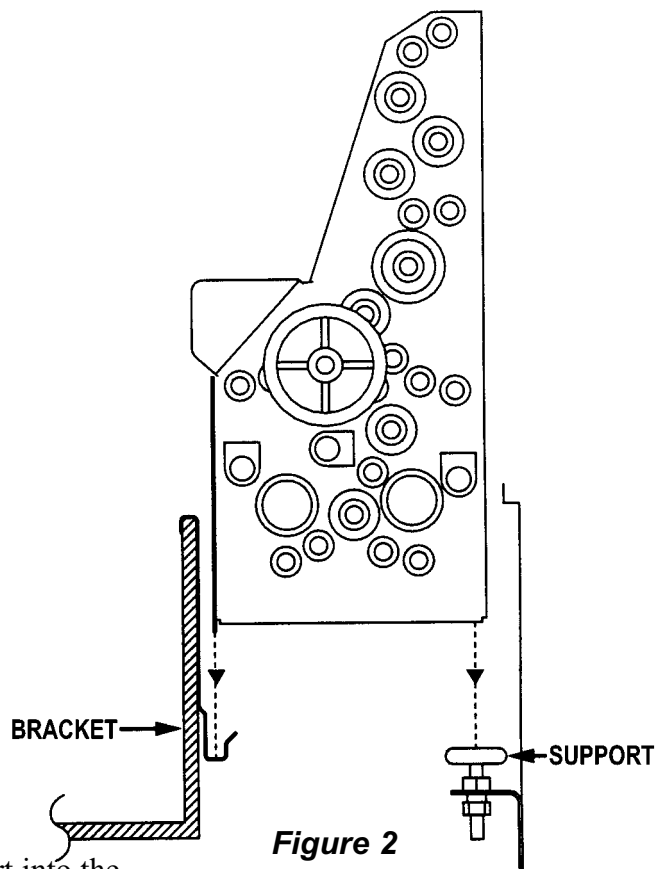

Figure 2
- Install the dryer transport by lowering it into the opening behind the wash tank. Place securely onto the bracket in front of the transport (the back of the wash tank wall) and onto the support behind the transport (on the chassis). (See Figure 2) When installed, the main drive gear is engaged with the rearmost worm on the drive shaft. Be careful not to dislodge the dryer air tubes from the dryer side panels.